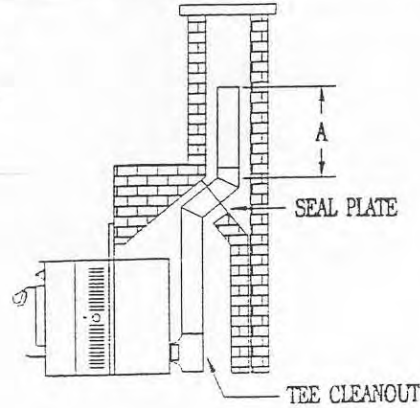

FIGURE 26-A
6. Another method of installation allows new pipe to simply be run 18" past the existing damper, with a seal plate installed at or above the damper. See Figure 26-A